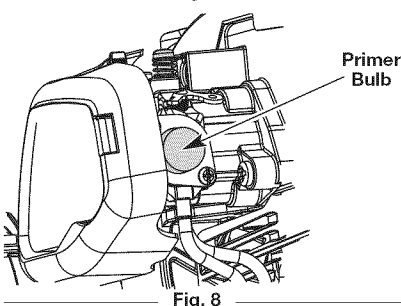

Fig. 8
3. Fully press and release the primer bulb 10 times, slowly. Some amount of fuel should be visible in the primer bulb and fuel lines (Fig. 8). If fuel can not be seen in the bulb, press and release the bulb as many times as it takes until fuel can be seen in it.